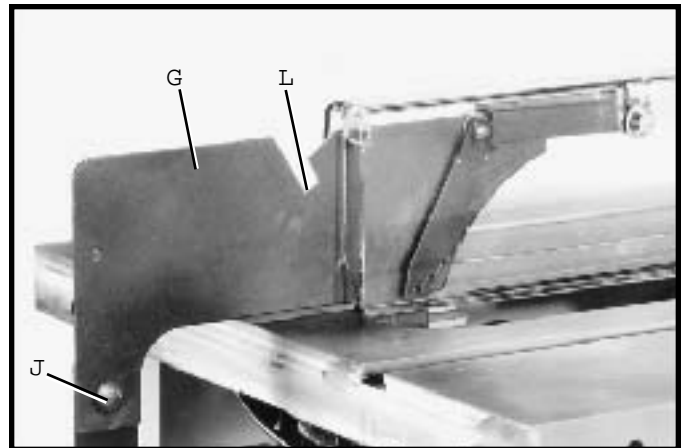
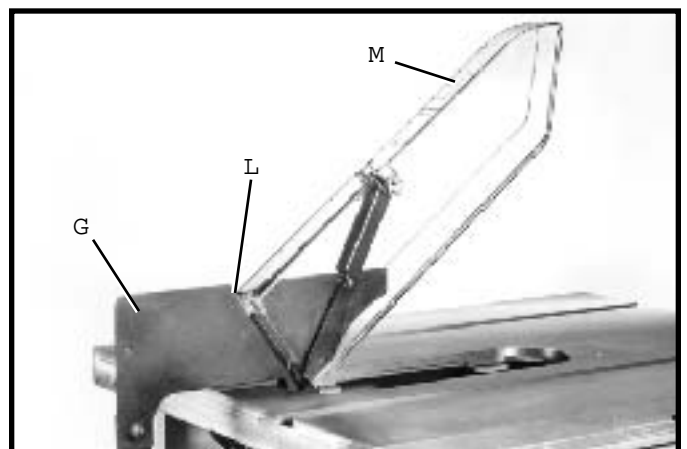

Fig. 30
Fig. 31
8. Fasten the rear of the blade guard and splitter bracket assembly (G) Fig. 30, to the rear splitter mounting bracket using 5/8" carriage bolt (J), flat washer, and hex nut. IMPORTANT: The splitter (G) Fig. 30, has a notch (L) cut in the top edge as shown. This feature will enable the blade guard to stay in the raised position to make blade changing a little easier. Simply raise the front of blade guard (M) Fig. 31, until the rear edge of the blade guard slips into notch (L) of splitter (G); the blade guard will stay in this position.